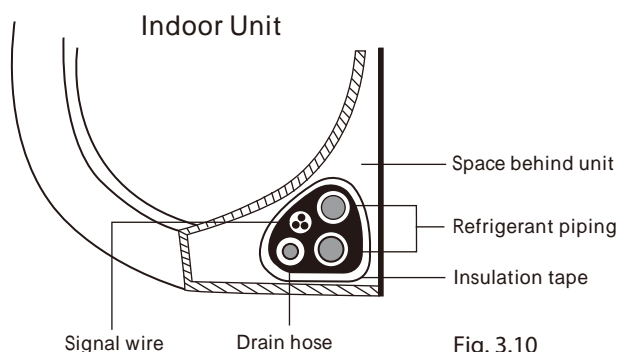

Fig. 3.10
1. Bundle the drain hose, refrigerant pipes, and signal cable according to Fig. 3.10.
3. Using insulation tape, wrap the signal wire, refrigerant pipes, and drain hose tightly together. Double-check that all items are bundled in accordance with Fig. 3.10.